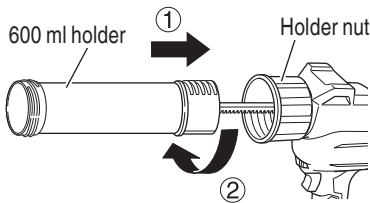

Fig. 14
- (3) Attach the rack handle to the rack with the screw.
- (4) Attach the 600 ml holder by inserting it into the holder nut and turning it in the direction of the arrow until it comes into contact. (Fig. 14)